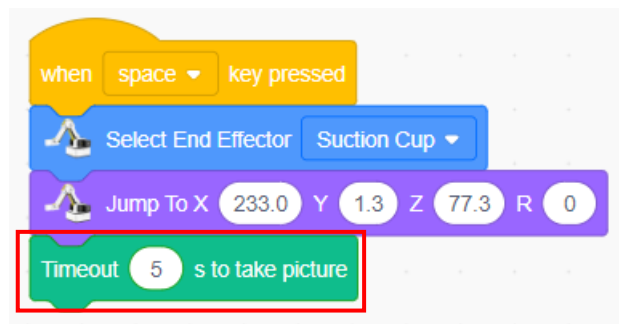

Figure 3.10 Garbage image collection
Step 4: Select the "Timeout (3)s to take picture" block to gather garbage images, as shown in Figure 3.10